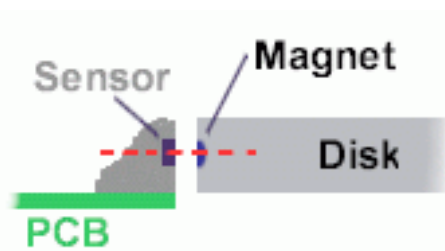

Figure 4 Ensure correct alignment of magnet disk and sensor.
- Take care that the magnets in the disk are approximately in the same height as the sensor, see figure 4.